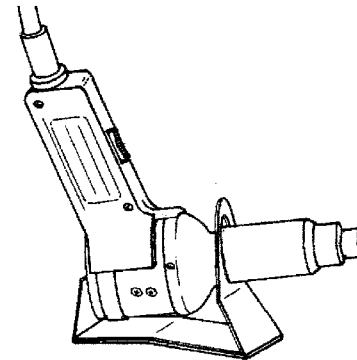

Figure 16. Mini-Gun Hot Air Tool, CV-5300/CV-5302
a. Mount the mini-gun on its stand or operate it as a hand held tool (Figure 16).
(1) Bench stand clips into back of the heat gun body and onto nozzle, providing for various operating positions.
29. **POST-OPERATION.** After using heating tool (Figure 16), proceed as follows: